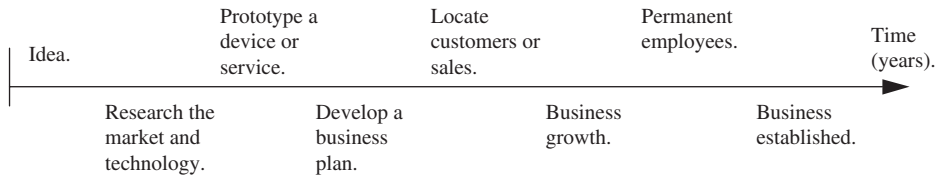

FIGURE 6.2
Milestones are normally selected using business objectives. Figure 6.2 shows a couple of project timelines, one for an established business product line, the other for a new venture. Consider the top timeline for a design project. It would be normal for the milestones to include (1) project launch, (2) design review, (3) external testing, and (4) hand-off. Other milestones might include system integration, individual component completion, or progress review. Avoid having milestones that are simply placeholders. Use them to obtain approval for work completed, and obtain approval to move ahead.